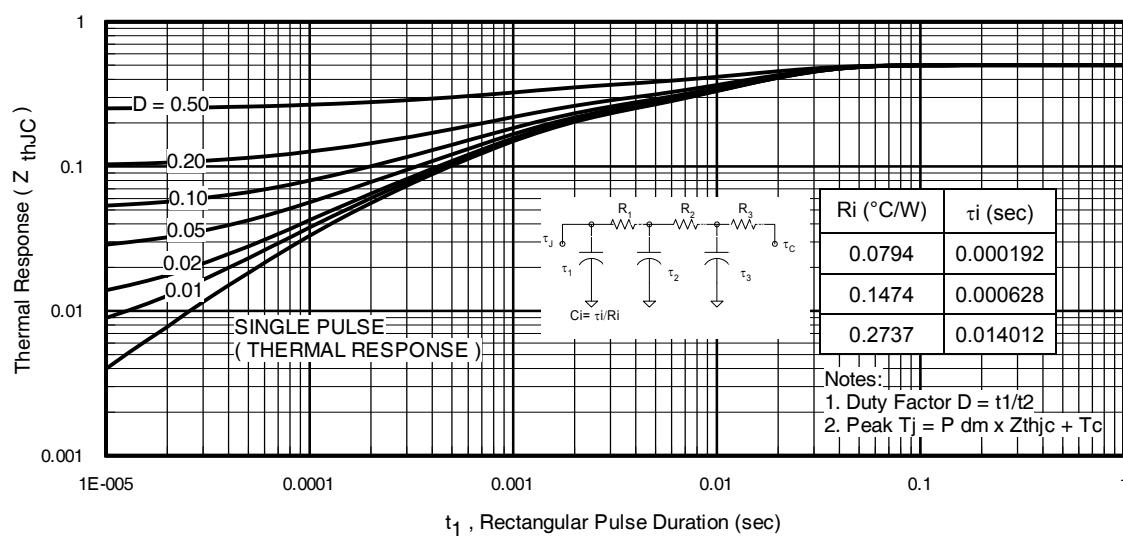

Fig 11. Maximum Effective Transient Thermal Impedance, Junction-to-Case
- ① Repetitive rating; pulse width limited by max. junction temperature. (See fig. 11).
- ② This value determined from sample failure population starting $T_J = 25^\circ\text{C}$, $L=0.043\text{mH}$, $R_G = 25\Omega$, $I_{AS} = 140\text{A}$, $V_{GS} = 10V$.
- ③ Pulse width $\leq 1.0\text{ms}$; duty cycle $\leq 2\%$.
- ④ Coss eff. is a fixed capacitance that gives the same charging time as Coss while V_{DS} is rising from 0 to 80% V_{DSS} .
- ⑤ This is applied to D²Pak, when mounted on 1" square PCB (FR-4 or G-10 Material). For recommended footprint and soldering techniques refer to application note #AN-994.
- ⑥ R_θ is measured at T_J of approximately 90°C .
- ⑦ Solder mounted on IMS substrate.
- ⑧ Limited by $T_{J\text{max}}$ starting $T_J = 25^\circ\text{C}$, $L=0.043\text{mH}$, $R_G = 25\Omega$, $I_{AS} = 140\text{A}$, $V_{GS} = 10V$. Part not recommended for use above this value.
10. $Z_{thJC}(D, t_{av})$ = Transient thermal resistance, see Figures 11)